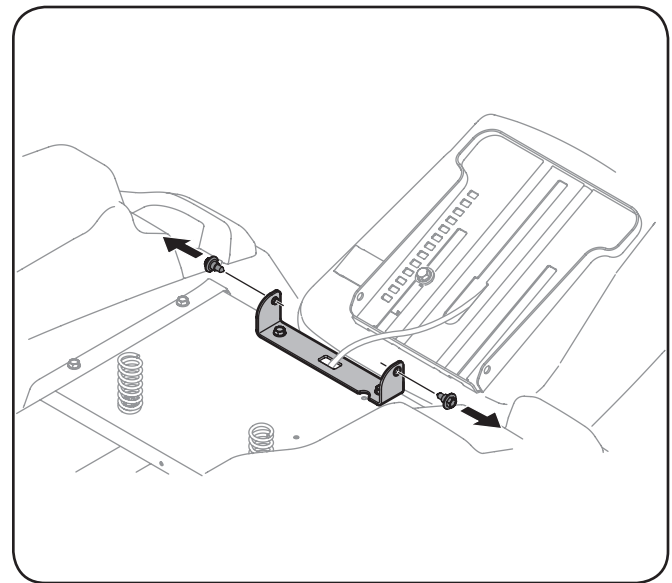

Figure 3-4
2. Remove the two shoulder screws in the seat pan as shown in Figure 3-4.